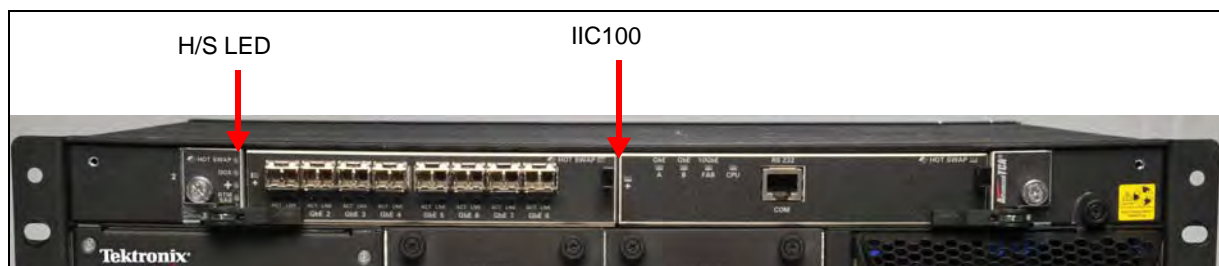

Figure 1.5 - G10 IIC100 Primary Chassis (Before Upgrade)
1.	Shut down the probe and arrays (see Shut Down Procedure for details). Wait until the IIC100 H/S LED is solid blue. See Figure 1.5 .